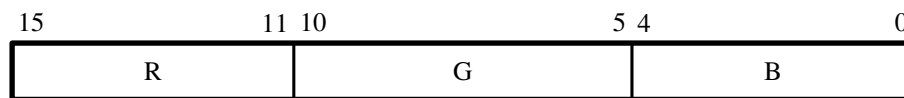

Figure 9. 16-bit RGB Color Space.
- 16-Bit RGB — This format uses 5 bits for red, and 6 bits for green and 5 bits for blue as shown in Figure 9. This mode is defined as 16 bits per symbol and one symbol per beat.